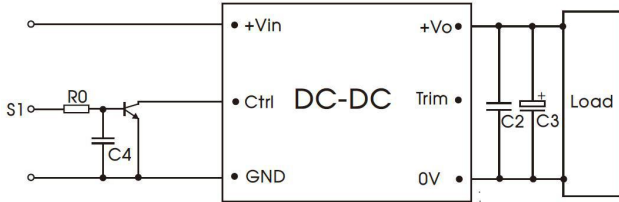

Fig.2
- (1) We recommended using EMC circuit, otherwise please ensure that at least a 100μF electrolytic capacitors is connected at the input in order to ensure adequate voltage surge suppression and protection.
- (2) Output ripple can be further reduced by appropriately increasing the output capacitor values Cin, Cout and/or by selecting capacitors with a low ESR (equivalent series resistance). Also make sure that the capacitance is not exceeding the specified max. capacitance load value of the product.
- (3) The recommended circuit for Ctrl function please refer to Fig.2.